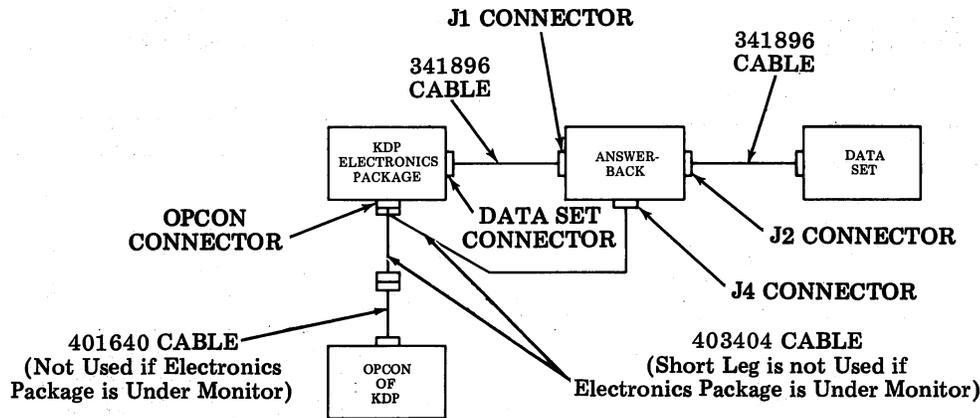

Fig. 30—KDP Cable Arrangement
4.83 With the pedestal door open, and the answer-back resting on the right side of the pedestal door, connect the cables as follows (Fig. 30):